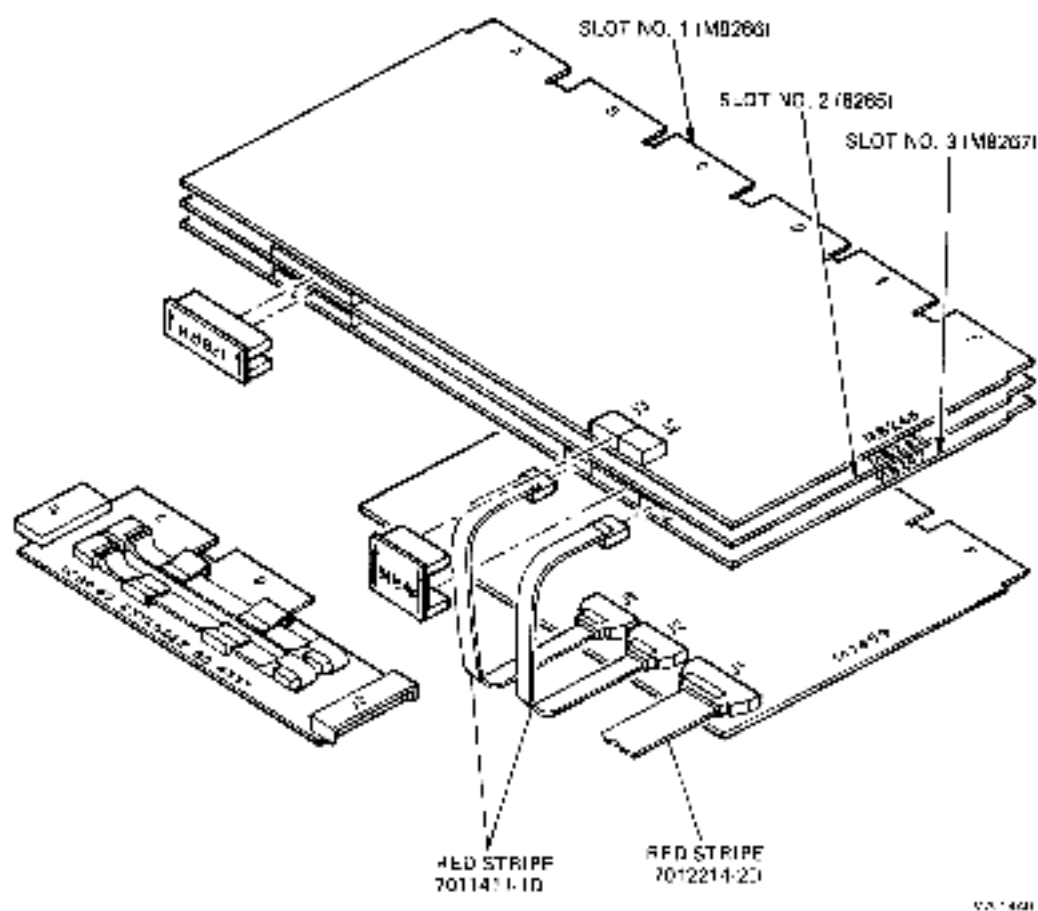

Figure 2-1 Maintenance Cable Installation
4. Calculate +5 Vdc current drain in the CPU backplane. Calculate +5 Vdc current drain for all other backplanes in box (Figure 2-1).
14. Install the two over-the-top (OTT) connectors as shown in Figure 2-1. Use H8822 if the cache and FP are both present.
18. Calculate the current drain at +5 Vdc for the backplane (DD11-PK) (Table 2-1 and Figure 2-1).